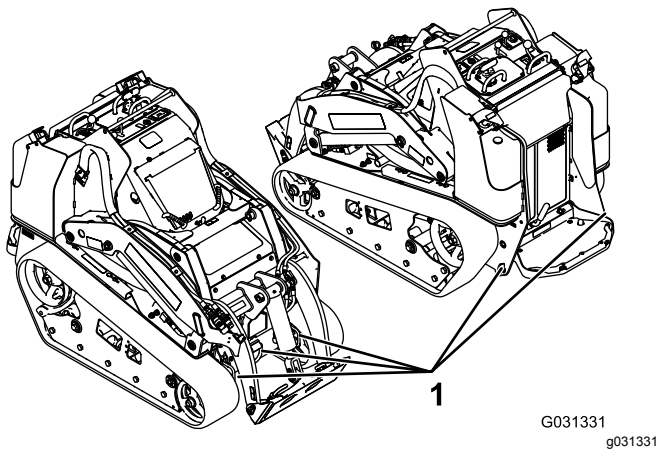

Figure 19
8. Use the metal tie-down loops on the machine to securely fasten the machine to the trailer or truck with straps, chains, cable, or ropes (Figure 19). Refer to local regulations for tie-down requirements.
You can lift the machine using the tie-down/lift loops as lift points; refer to Figure 19.